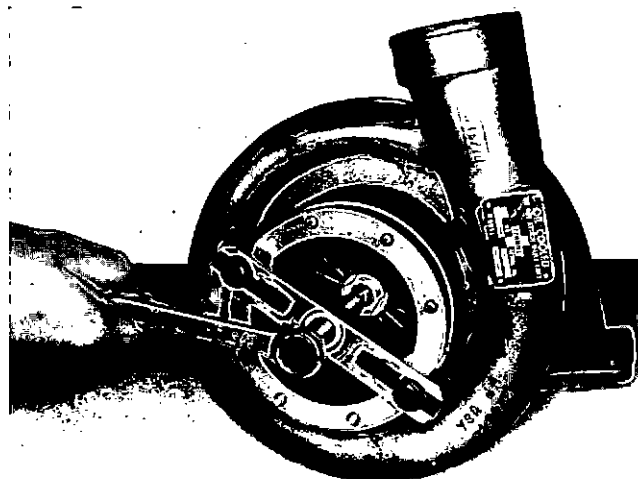

Fig. 3-3, (VTST28). Removing the compressor wheel, housing and diffuser plate
5. Using an ST-647 Puller, secure the clamp to the collector housing with the end of the puller bolt on the rotor shaft. Pull the collector housing, oil seal diffuser plate and the compressor wheel from the bearing housing, Fig. 3-3.